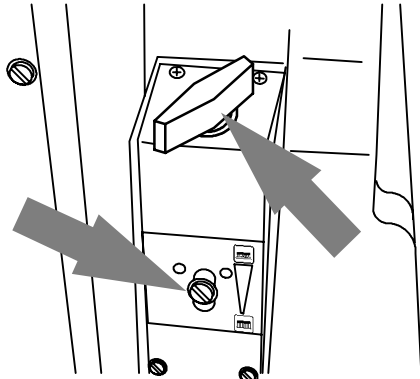

FIG. 29
- Turn brush pressure knob to adjust pressure for cleaning application. The indicator below the knob shows if brush pressure is increasing or decreasing (Figure 29).